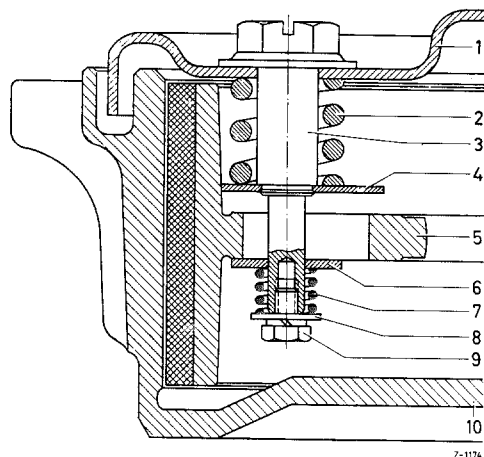

Fig. 42-8/2
3. Loosen the hexagon screw (9) and remove the washer (8), the spring (7), and the washer (6) (Fig. 42-8/2).